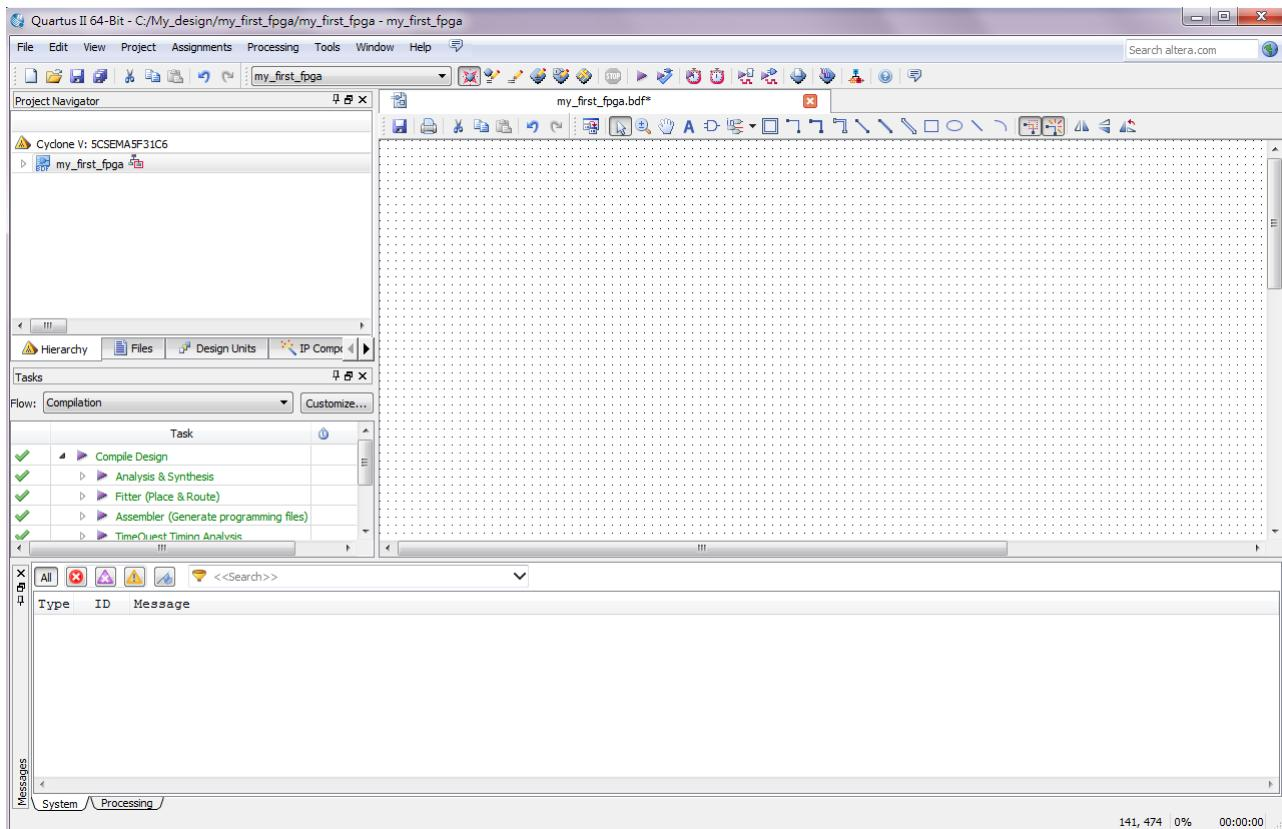

Figure 3-2 Bank BDF
4. Click Save. The new design file appears in the Block Editor (see Figure 3-2).